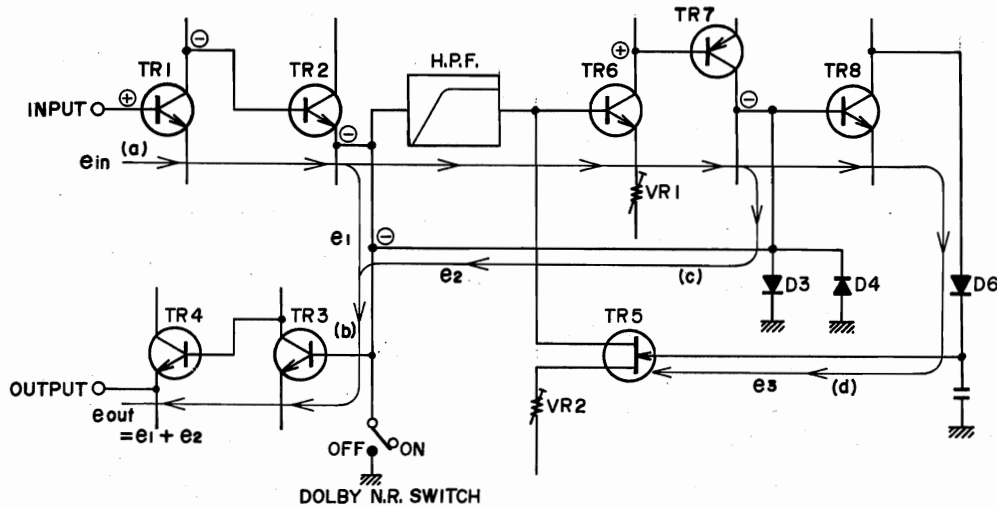

Fig. 31 Recording Dolby NR diagram
1. RECORDING DOLBY NR (Figs. 31, 32)
In figure 31, the Input Signal e_{in} passes TR1 ~ TR4 and becomes the output signal. The signal from TR2 passes the High Pass Filter (H.P.F.) and is amplified at TR6, TR7. At this time, TR6 signal is controlled by FET (field effect transistor) TR5 gate D.C. bias and the signal from TR7 is varied by means of Diodes D3, D4 characteristics and is emitted as e_2 . This output signal e_2 is in phase with TR2 output signal and TR4 output becomes the dolbyized output signal e_{out} .